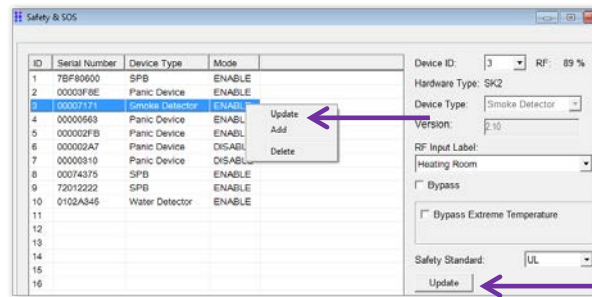

Figure 68: Update Safety or SOS Device
3. Right click the selected row. The function window appears as in Figure 68 below.